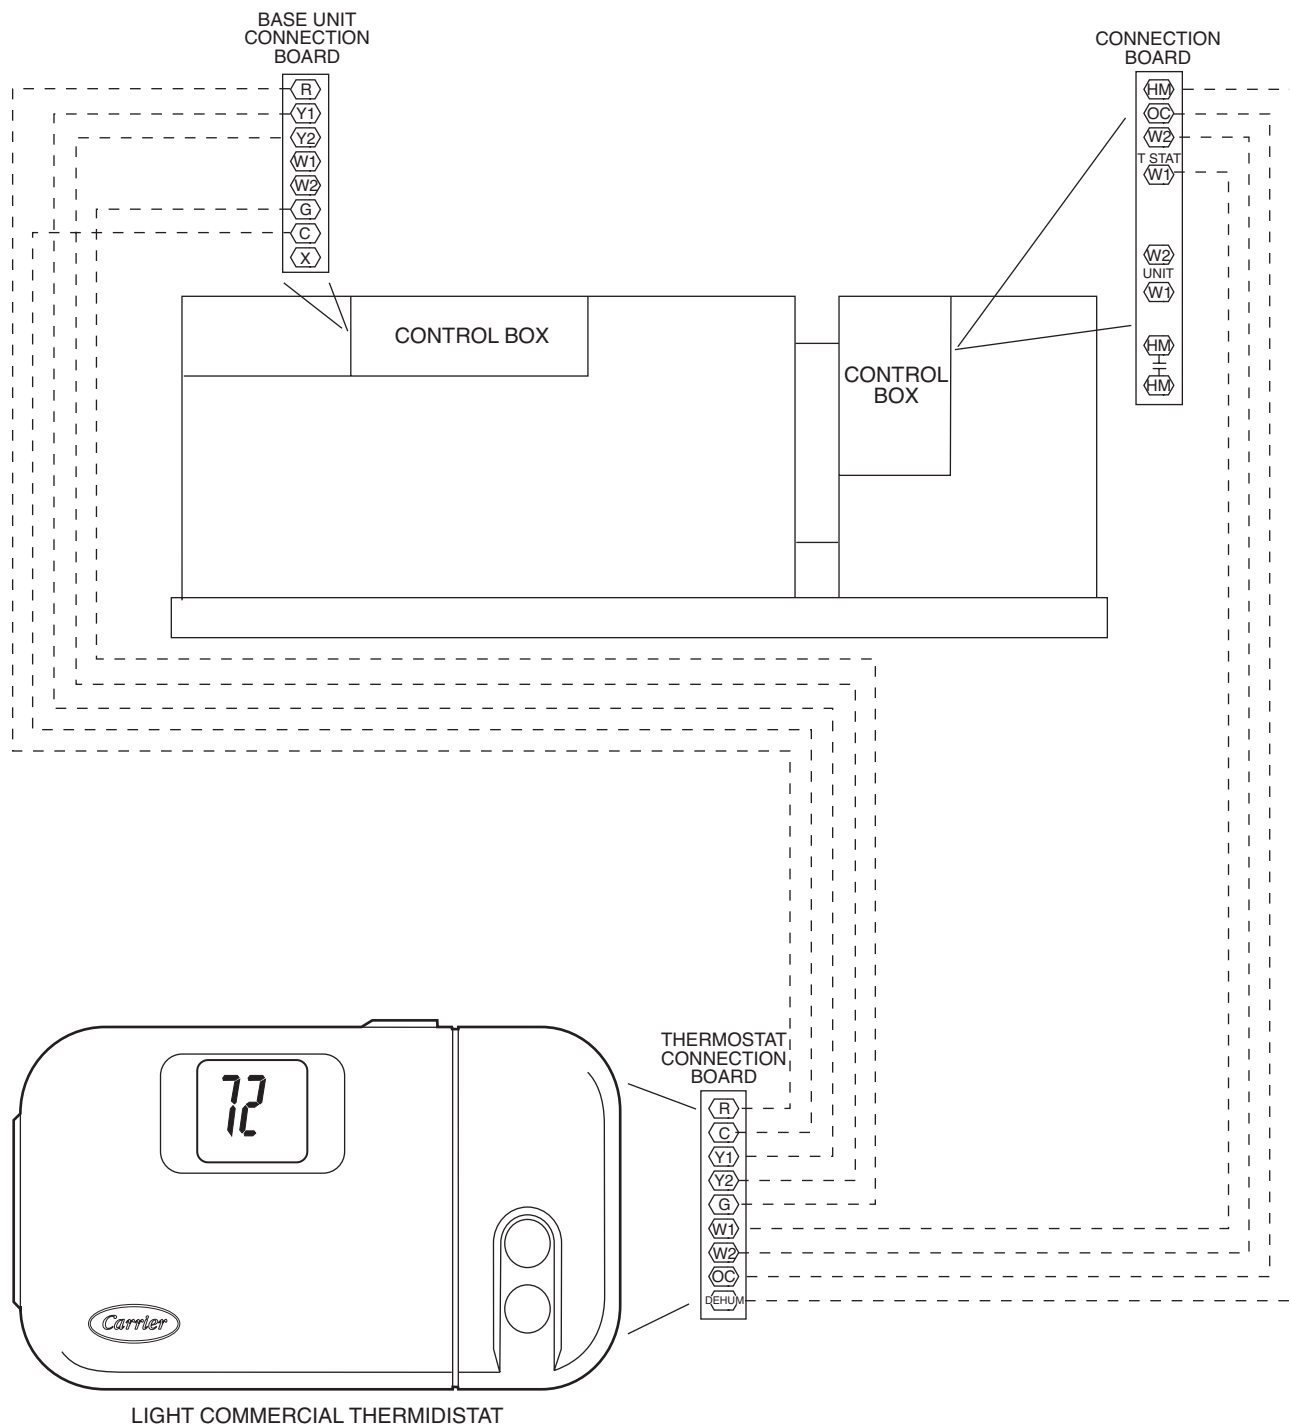

Fig. 24 — Control Wiring with Thermidistat™ and Electro-Mechanical Controls
- Thermidistat™ and electro-mechanical controls (Fig. 24)